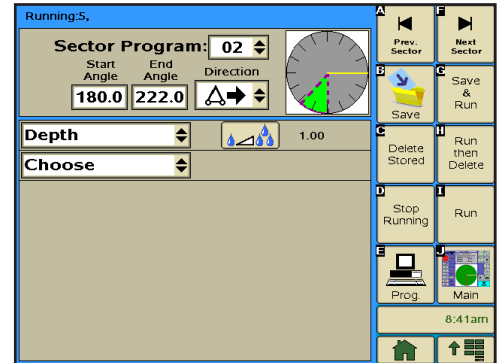

Figure 103-1
7. Program the start and end angles, and direction for this sector. Refer to Figure 103-1.